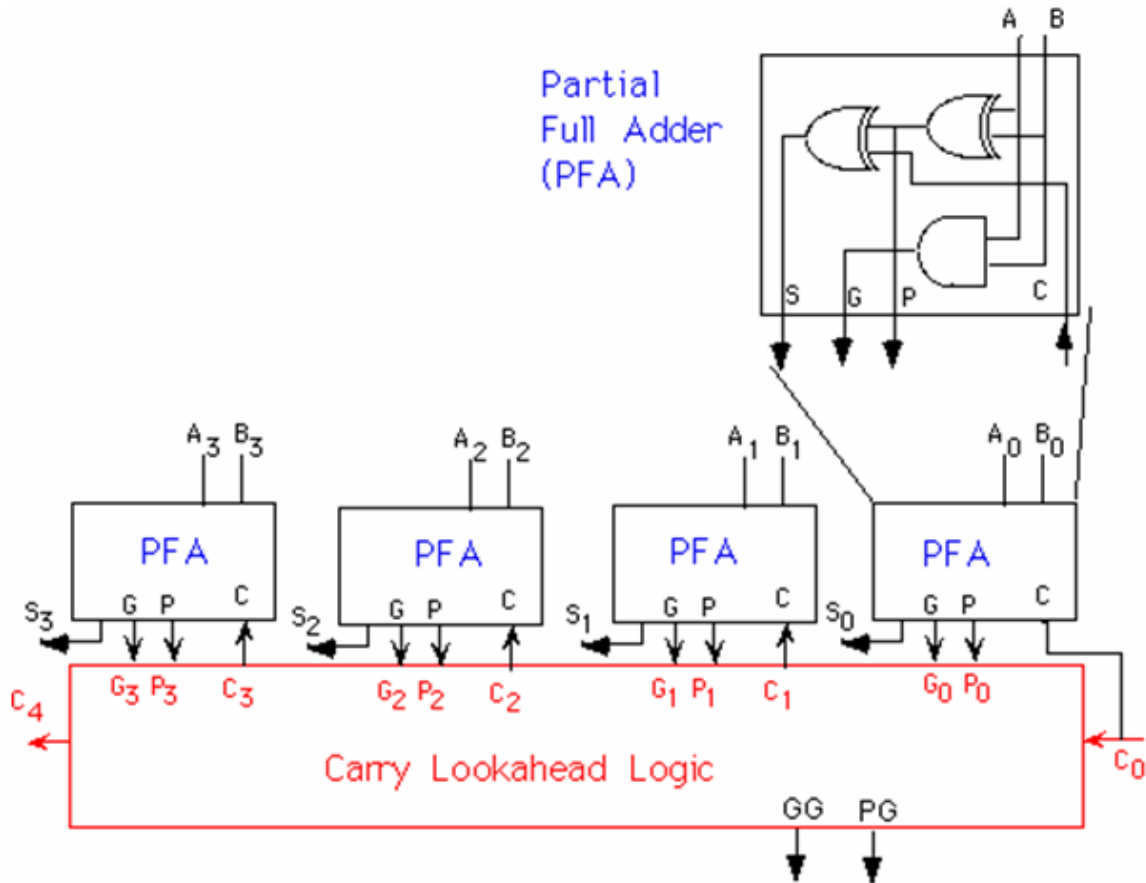

Figure 5: Block diagram of a 4-bit CLA.
The carry-look-ahead adder can be broken up in two modules: (1) the Partial Full Adder, PFA, which generates S_i , P_i and G_i as defined by equations 3, 4 and 9 above; and (2) the Carry Look-ahead Logic, which generates the carry-out bits according to equations 5 to 8. The 4-bit adder can then be built by using 4 PFAs and the Carry Look-ahead logic block as shown in Figure 5.
- e. Assume you add two 16-bit words up using a ripple-carry adder. Considering worst case conditions, after how long a delay will the sum (S) be valid?
- f. What is the delay of the Sum bits S0 and S3 of the 4-bit carry-look-ahead adder in figure 5 above?
- You will implement a **16-bit carry-look-ahead adder**. You will do this by creating a Partial Full Adder (PFA) macro and a carry-look-ahead logic macro as shown in Figures 5 and 6.